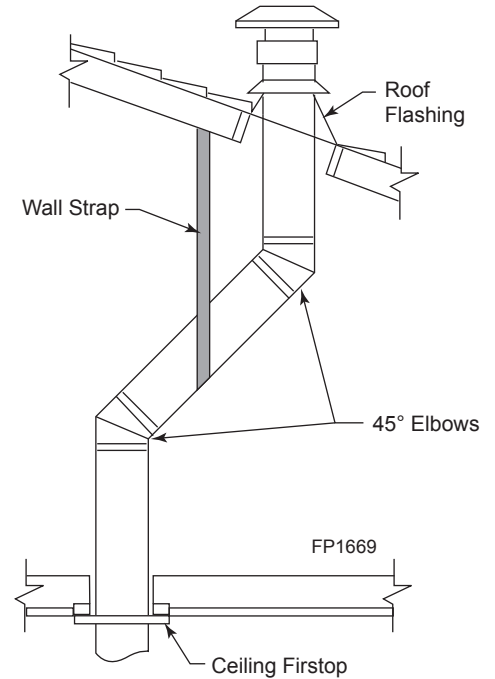

Figure 32 - Offset with Wall Strap and 45° Elbows
1. Determine the route your vertical venting will take. If ceiling joist, roof rafters or other framing will obstruct the venting system, consider an offset. Refer to Figure 32 to avoid cutting load bearing members.